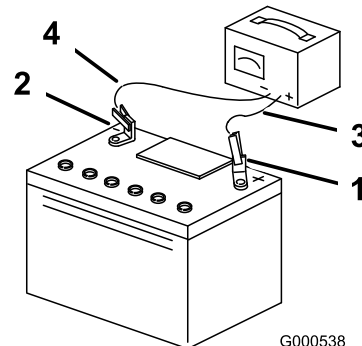

Figure 48
3. When the battery is fully charged, unplug the charger from the electrical outlet, then disconnect the charger leads from the battery posts (Figure 48).